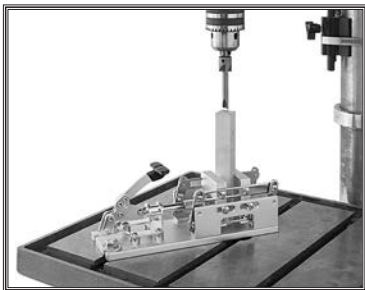

Figure 4. Inserting pen barrel trimmer into pen tube.
3. Slowly insert pen barrel cutter shaft into pen tube, as shown in **Figure 4**.